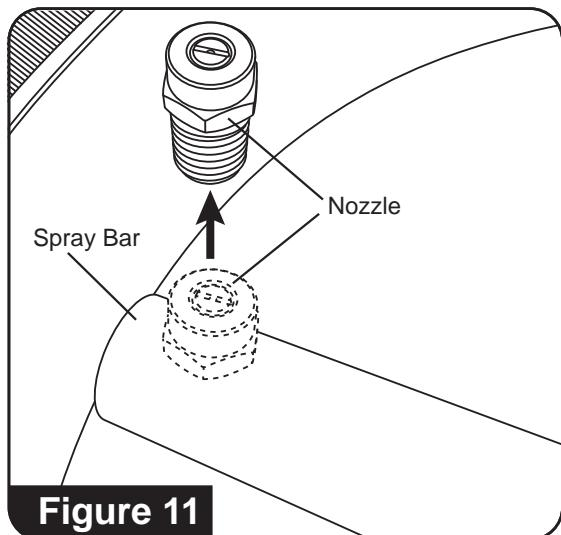

Figure 11
3. Using a 14mm wrench (not provided) remove both nozzles from the spray bar. (**See Figure 11**)